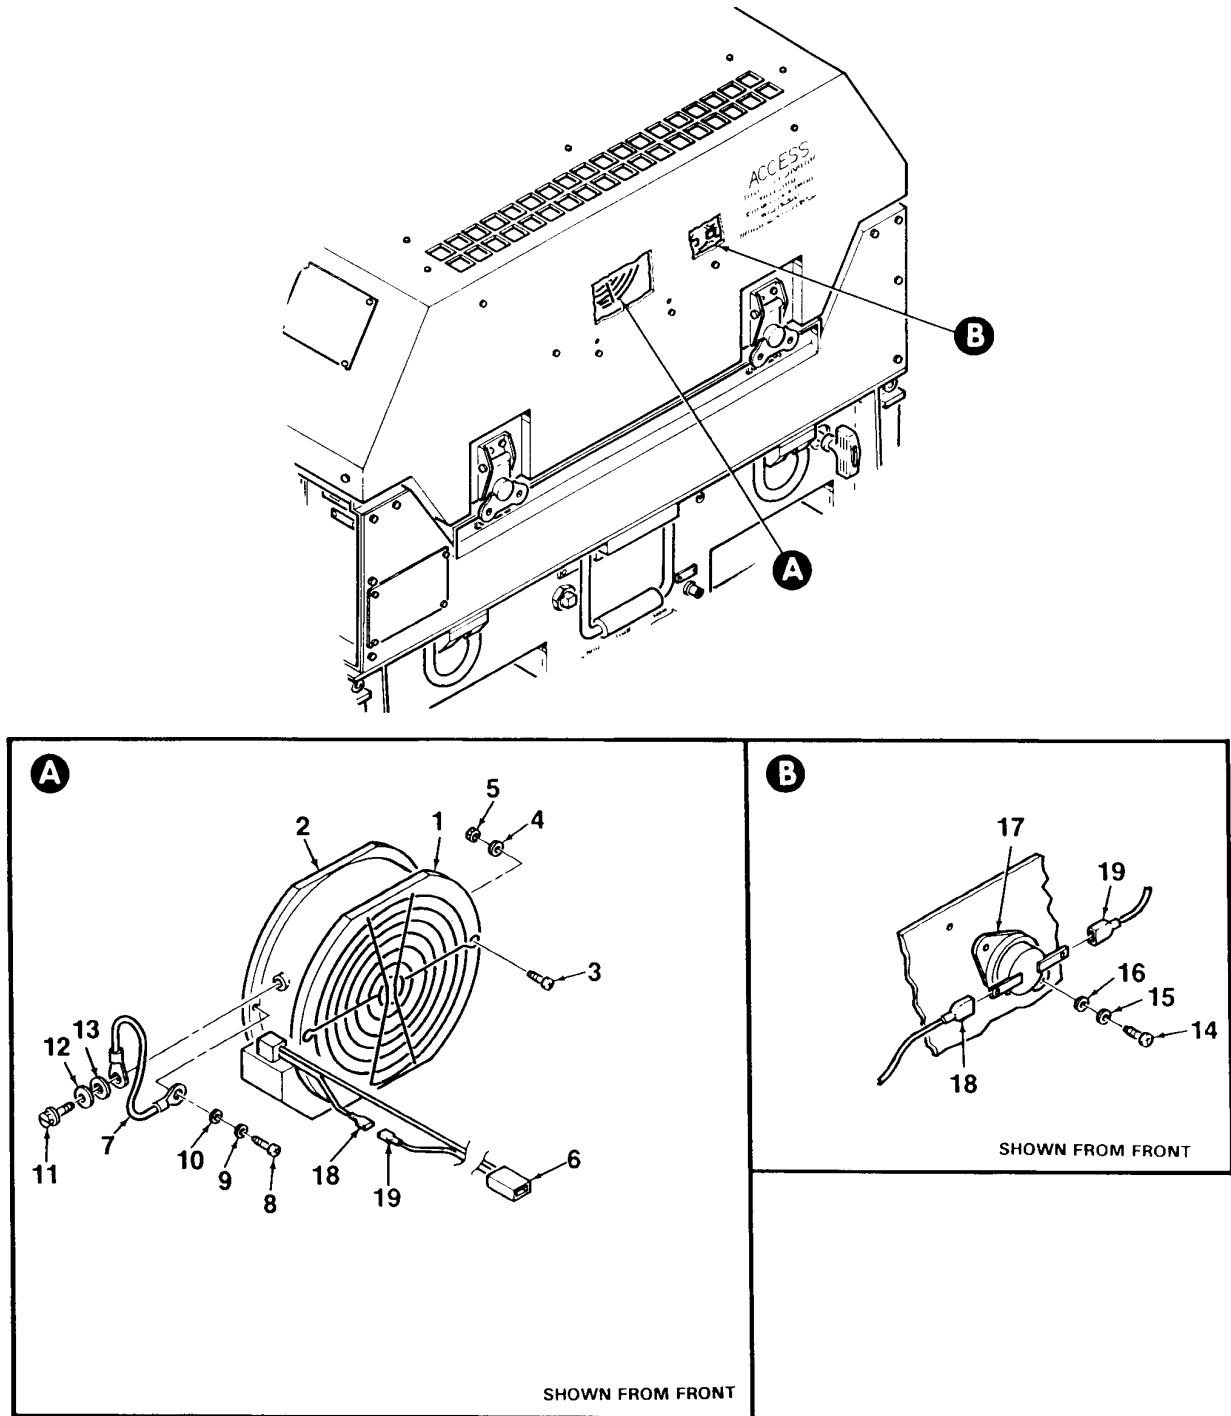

Figure 4-40. Low Temperature Switch and Cooling Fan Removal
7. Tag and disconnect two electrical wires (18, 19, Figure 4-40) from low temperature switch S21 (17) (85° F). Remove temperature switch from main access cover by removing two screws (14), lockwashers (15), and washers (16).
8. Disconnect fan power cord (6) from generator set wiring harness.
9. Remove low temperature fan (2) from main access cover by removing two screws (8), lockwashers (9) and washers (10).